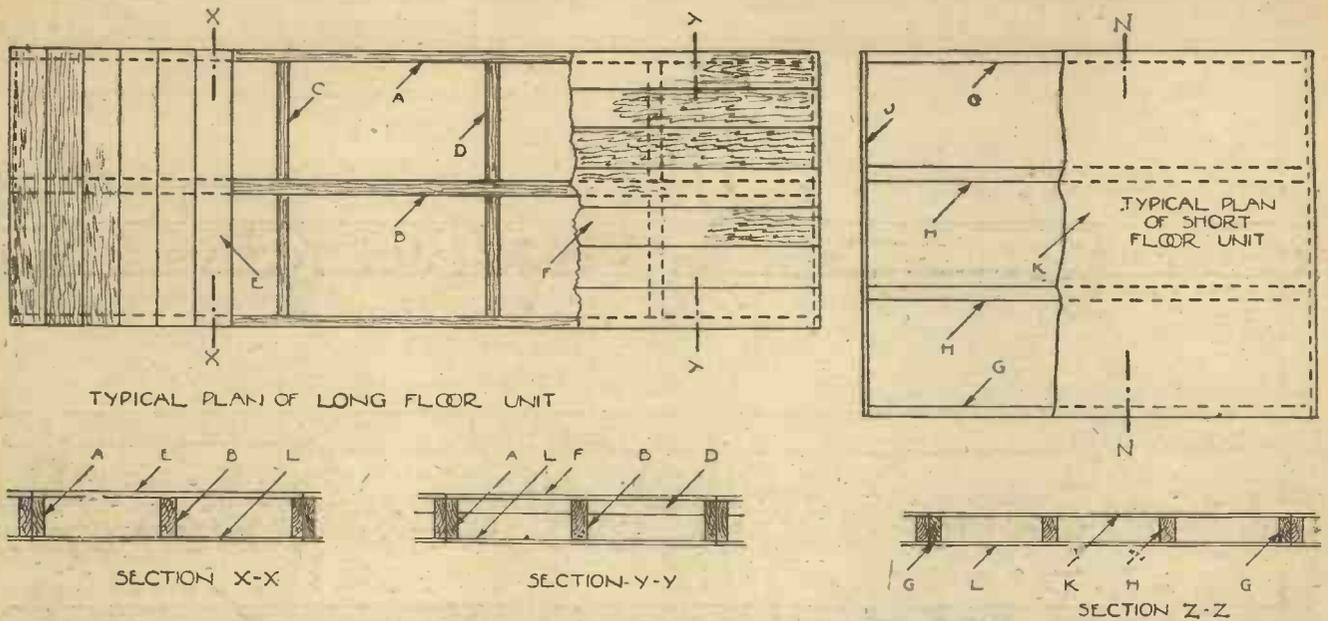

Fig. 51.—Plans and cross sections of typical long and short floor units.
In this article I am limiting the descriptions to the main structural essentials, and leaving until later the important and interesting subjects of thermal and sound insulation, floorings and ceiling coverings. Fig. 50 depicts four ways in which timber-framed pre-built floor units may be designed. Fig. 51 should be studied with Fig. 50. At (1) Fig. 50 is depicted floor units which are intended to span the whole of the length or breadth of an ordinary size room, excluding any bay window space across which usually is placed a beam as shown. It will be noticed that the floor units are deep, and will be heavy and rather cumbersome to handle. Although not recommended by me, the design is shown for several reasons. One is to show that designers should not take liberties with deflection; an examination of some of the really excellent general systems of pre-building which have recently been in the limelight have depth of floors which are too little to comply with the *strength* and *deflection* codes previously explained. It is obviously wrong to design floors which will be too weak, and will deflect to such an extent as to cause them to "rock." The floor unit as (1) have 7in. x 1 $\frac{1}{2}$ in. side joists of Douglas fir, or "1,200lb. extreme fibre stress in bending" timbers where they adjoin other units, and 7in. x 2in. main or intermediate joists. These sizes are in conformity with the L.C.C. by-laws for timber construction, which by-laws are followed by many local authorities outside London. If ordinary non-graded redwood
Fig. 51 shows plans and cross sections of typical timber-framed floor units. The long floor units should be limited to about 3ft. wide; the short floor units may be up to 4ft. wide, owing to their lightness in weight. It will be noticed that flooring boards may be laid either parallel or at right angles to the length of the units; some designers believe that the former gives a better appearance to the flooring; in my opinion, if ordinary redwood floorings are used, the direction of the boards does not matter very much, as the flooring is usually covered either wholly or mostly with carpets or other floor covering. If choice hardwoods are used, and which are not usually covered, then the boards are better laid with their length parallel to the length of the units.